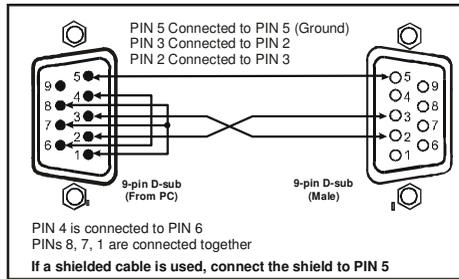

Figure 7: Connecting a PC without using a Null-modem Adapter
- Connect the RS-232 9-pin D-sub port on your PC to the RS-232 9-pin D-sub rear panel port on the **VS-88HCB** unit, as Figure 7 illustrates2